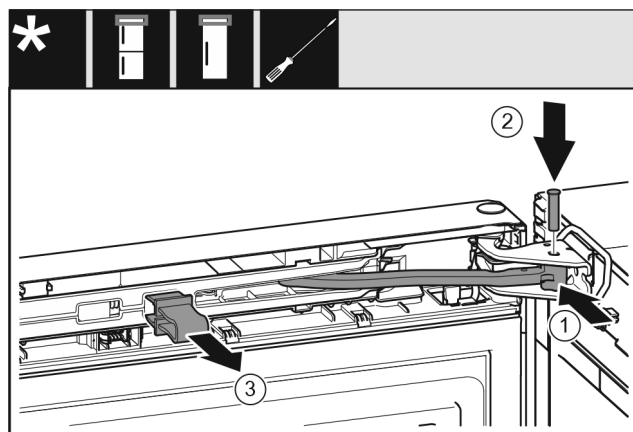

Fig. 30
- ▶ Turn the joint Fig. 30 (1) in the bearing block.
- ▶ Insert thebolt Fig. 30 (2) into the bearing bracket and joint. Ensure that the latching cam is in the groove properly.
- ▶ Remove the safeguard Fig. 30 (3).